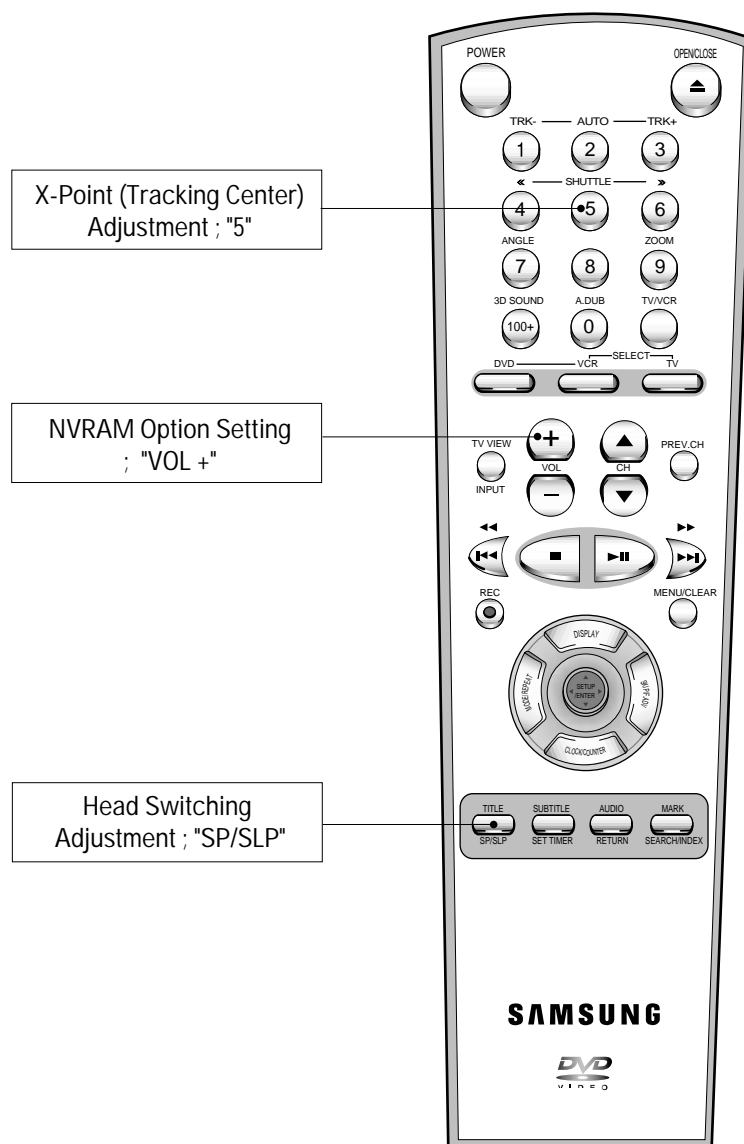

Fig. 4-1
- 3) Press the “5” button of remote control then adjustment is operated automatically. (See Fig. 4-1)
- 3) Press the “SP/SLP” button of remote control then adjustment is operated automatically. (See Fig. 4-1)